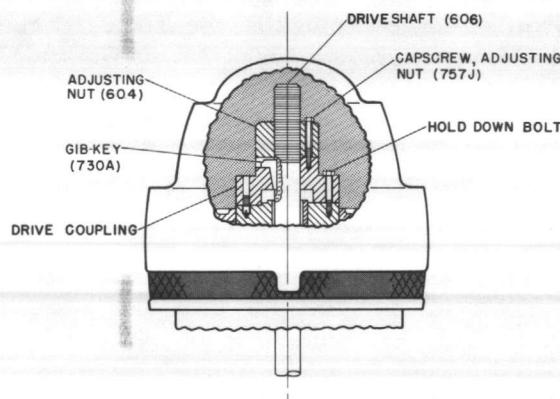

Figure 10-1 Hollow Shaft Adjusting Nut
A. Remove driver cover and drive coupling. (SEE FIGURE 10-1).
D. Slip on driver coupling (SEE FIGURE 10-1). Apply a thin film of oil on gib key (730A) and install key. Key shall be a slide fit allowing adjustment of the drive shaft by means of the adjusting nut. Secure drive coupling, see that the drive coupling is properly seated. Install adjusting nut (604), but do not adjust impellers at this time.